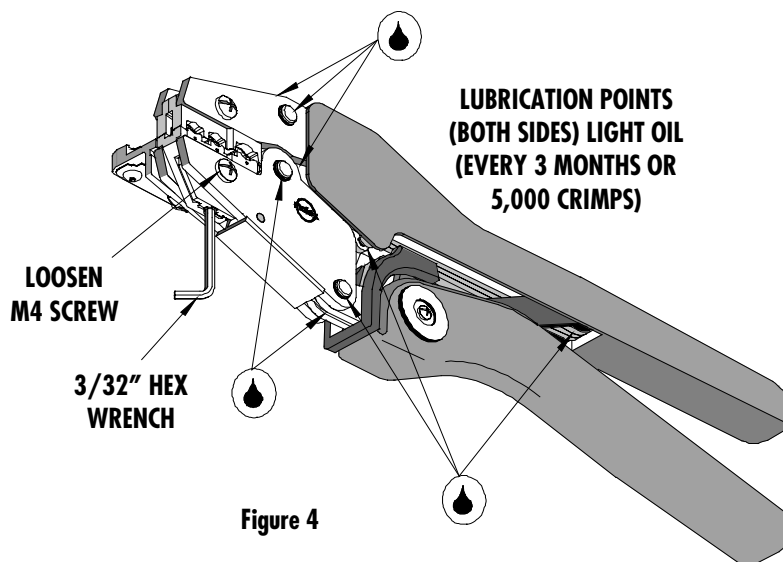

Figure 4
6. If the insulation part of the crimp needs to be adjusted, first loosen the M4 screw on the bottom tool jaw, then insert a 3/32 hex wrench (supplied) into the bottom of the lower die (See Figure 4). A clockwise (CW) rotation decreases insulation crimp while a counter-clockwise (CCW) rotation increases insulation crimp. After adjusting retighten the M4 screw.
3. Make certain all pins; pivot points and bearing surfaces are protected with a thin coat of high quality machine oil. Do not oil excessively. The 64001-0200 (RHT-1991) was engineered for durability, but like any fine piece of equipment it needs cleaning and lubrication for a maximum service life of trouble-free crimping. A light oil, such as 30 weight automotive oil used at the oil points shown in Figure 4, every 5,000 crimps or 3 months will significantly enhance the tool life and ensure a stable calibration.